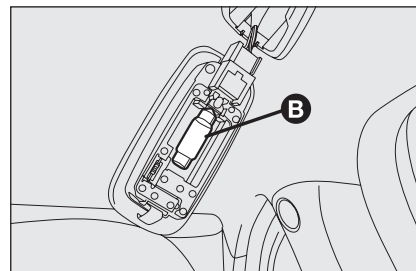

fig. 39
- replace the bulb **B**-fig. 39 releasing it from the side contacts making sure that the new bulb is correctly clamped between the contacts.